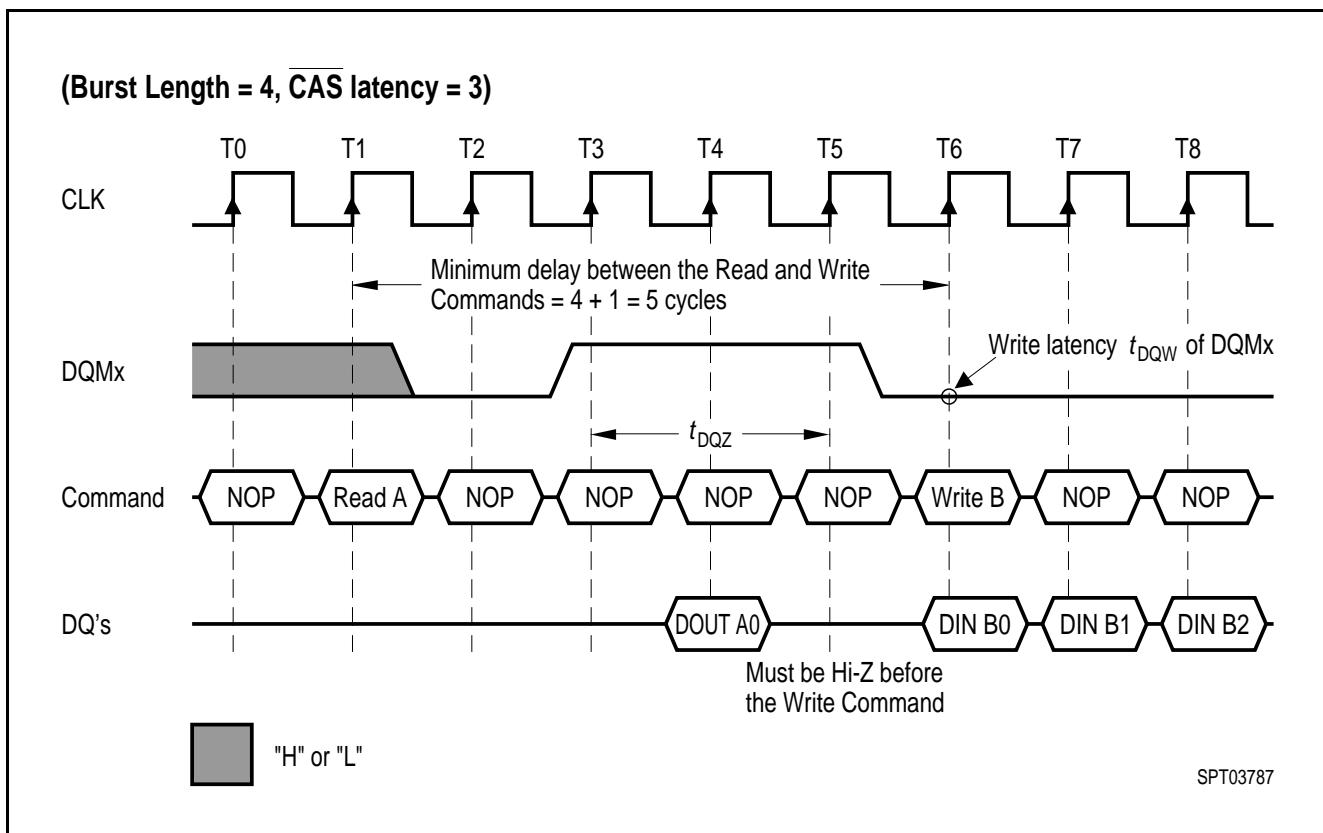

Figure 8 Read to Write Interval
- Figure 8 Read to Write Interval